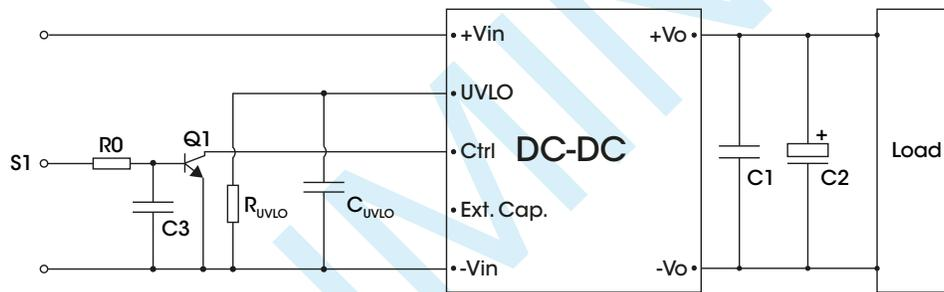

Figure 6.
4. Recommended circuit for Ctrl negative logic refer to Fig.6.